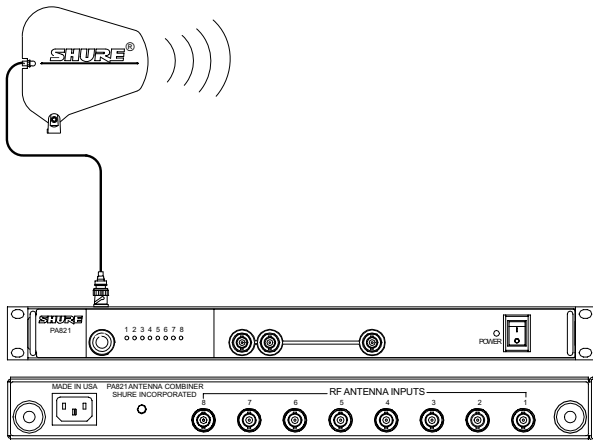

FIGURE 1
2. Attach an antenna to the **MAIN OUT** of PA821. For wideband applications, use PA805WB directional antenna (Figure 1).